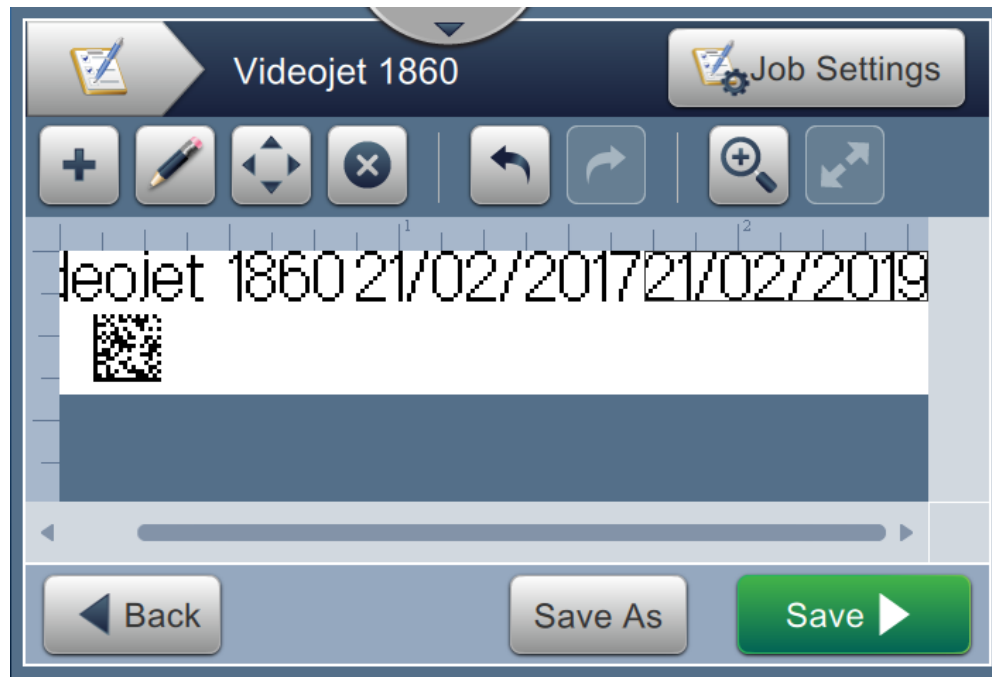

Figure 6-14: Job Editor Screen
16. Touch the  button to save the changes. The Job Editor screen opens as shown in the Figure 6-14.